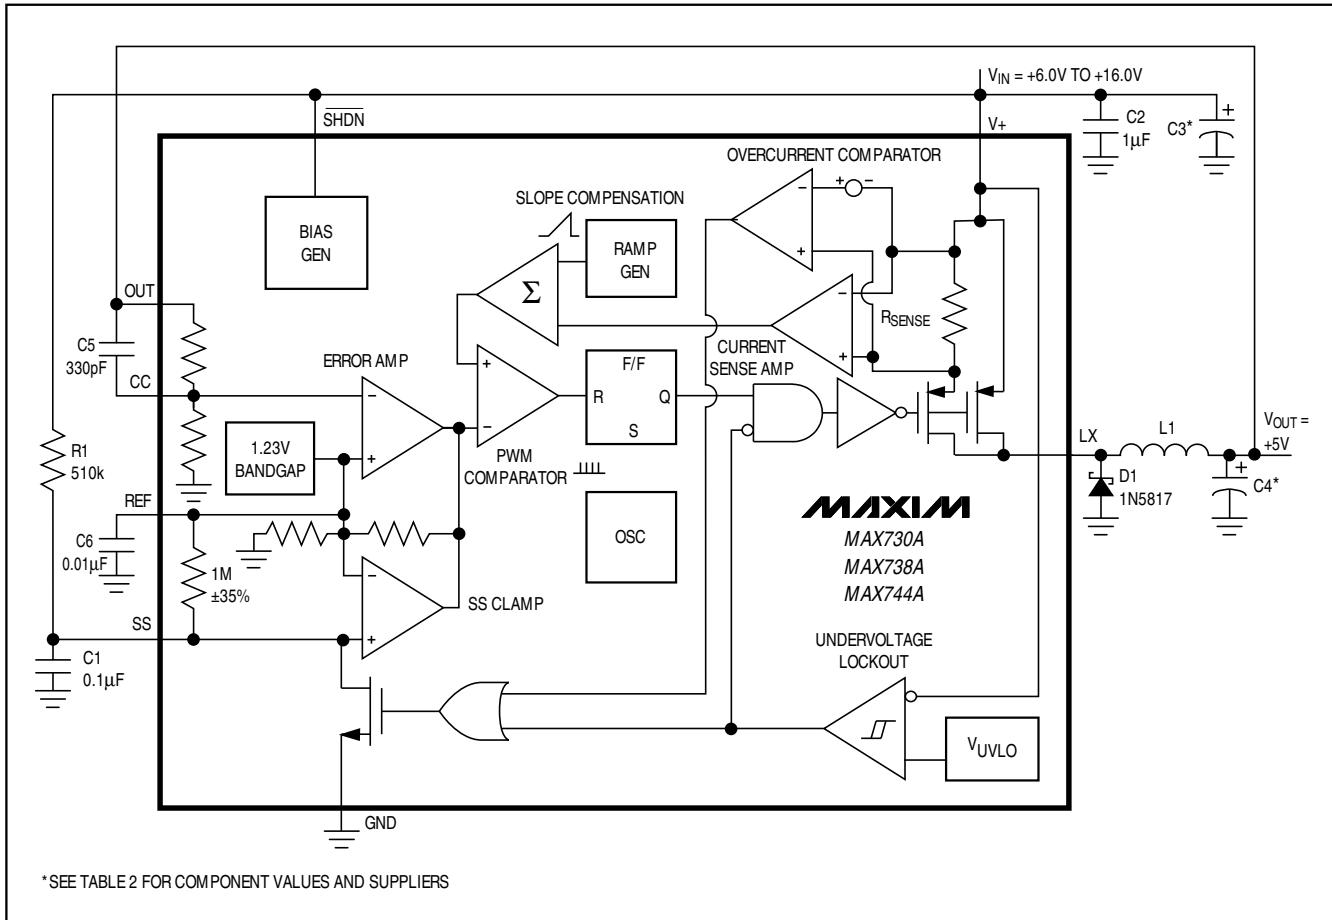

Figure 1. Detailed Block Diagram with External Components
The controller consists of two feedback loops: an inner (current) loop that monitors the switch current via the current-sense resistor and amplifier, and an outer (voltage) loop that monitors the output voltage through the error amplifier (Figure 1). The inner loop performs cycle-by-cycle current limiting, truncating the power transistor on-time when the switch current reaches a predetermined threshold. This threshold is determined by the outer loop. For example, a sagging output voltage produces an error signal that raises the threshold, allowing the circuit to store and transfer more energy during each cycle.
Figures 1 and 2 show a capacitor and a resistor connected to the soft-start (SS) pin to ensure an orderly power-up. Typical values are $0.1\mu\text{F}$ and $510\text{k}\Omega$. SS controls both the SS timing and the maximum output current that can be delivered while maintaining regulation.